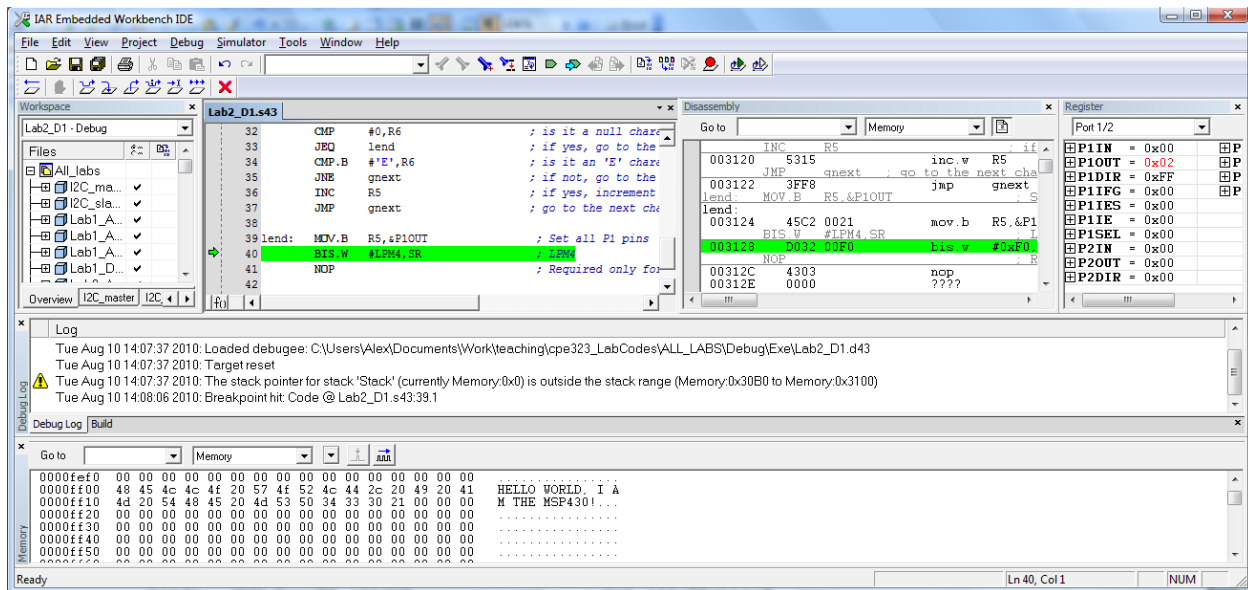

Figure 3. IAR Simulator.
Step 2: Choose Project>Debug. You will see the EW display as shown in Figure 3.